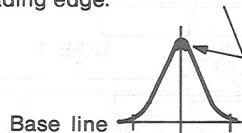

Fig. 6
1. Feed in a weak signal to TP102 from the genescope. Adjust T101 for maximum gain and the waveform indicated in Fig. 6. If the center of the waveform cannot be lined up on the marker, adjust the right/left balance.